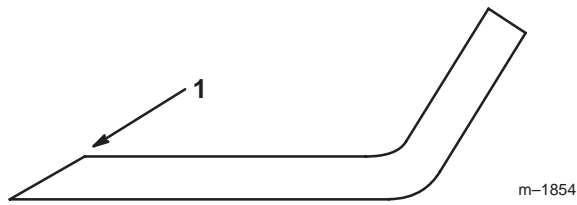

Figure 43
1. Use a file to sharpen the cutting edge at both ends of the blade (Fig. 43). Maintain the original angle. The blade retains its balance if the same amount of material is removed from both cutting edges.